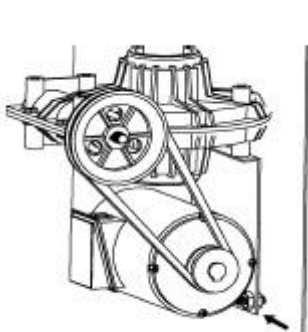

Fig 19
**Remove the left side cover by unscrewing the screws; adjust two screws located on the motor support, keep a suitable distance between motor support and motor base; tight the screws for the belt tension.(Fig 19)**